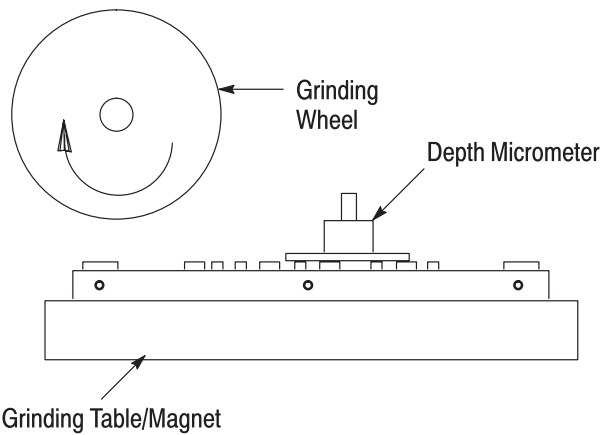

Figure 11
6. After grinding the die bushings, use a depth micrometer to measure and record the dimension in the Die Repair and Sharpening Log (found in the die package documentation package). Measure from the face of the die bushings to the face of the lower assembly (die block). Record this number in the Die Repair and Sharpening Log under bushing head thickness. Subtract this number from the previous entry to determine how much material has been removed. See Figure 11.